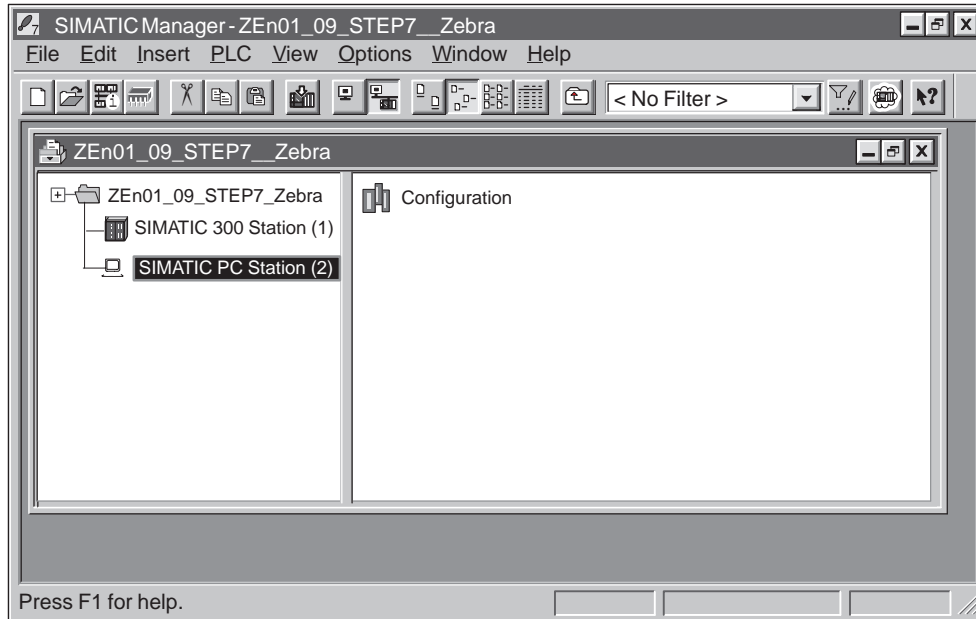

Figure 3-9 Configuring the PC Station in the Sample Project
2. Double-click on the Hardware object to open the configuration tool of the STEP 7 software (Figure 3-9).